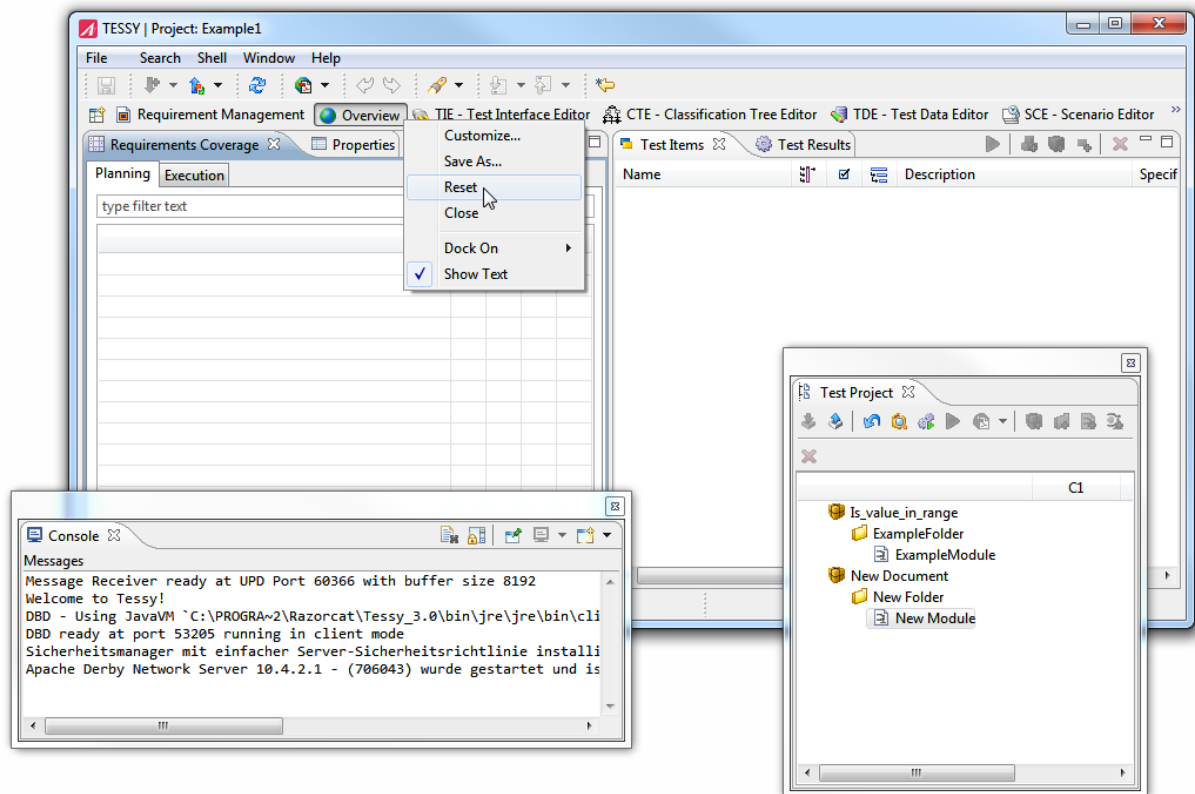

Figure 4.14: Move the views separately. To switch back, use “Reset”.
- Right-click on the perspective switch and choose “Reset” to switch back to the original positions of all views of the respective perspective (see figure 4.14).